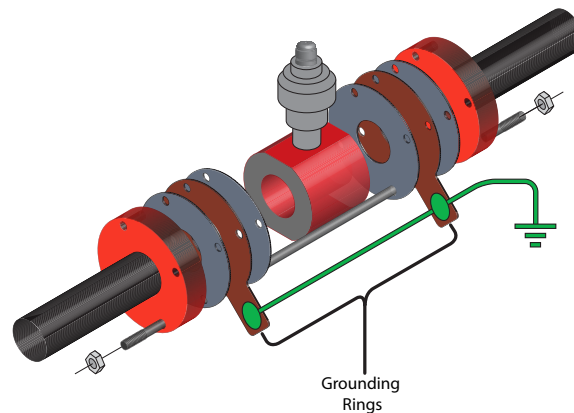

Figure 15: Grounding ring installation
4. Use grounding rings when metal pipes are used in conjunction with this meter. See Figure 15.